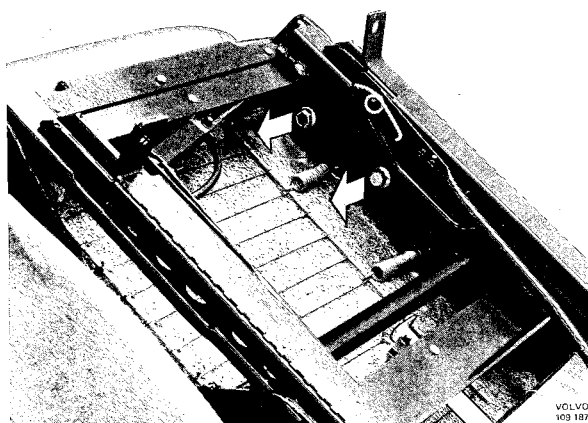

Fig. 8-50. Removing seat cushion
3. Separate the contacts between seat back and cushion. Remove the screws acc. to Fig. 8-50 and take out the seat cushion.
3. Disconnect the junction box between the seat back and cushion. Remove the screws according to Fig. 8-50 and remove the seat cushion.